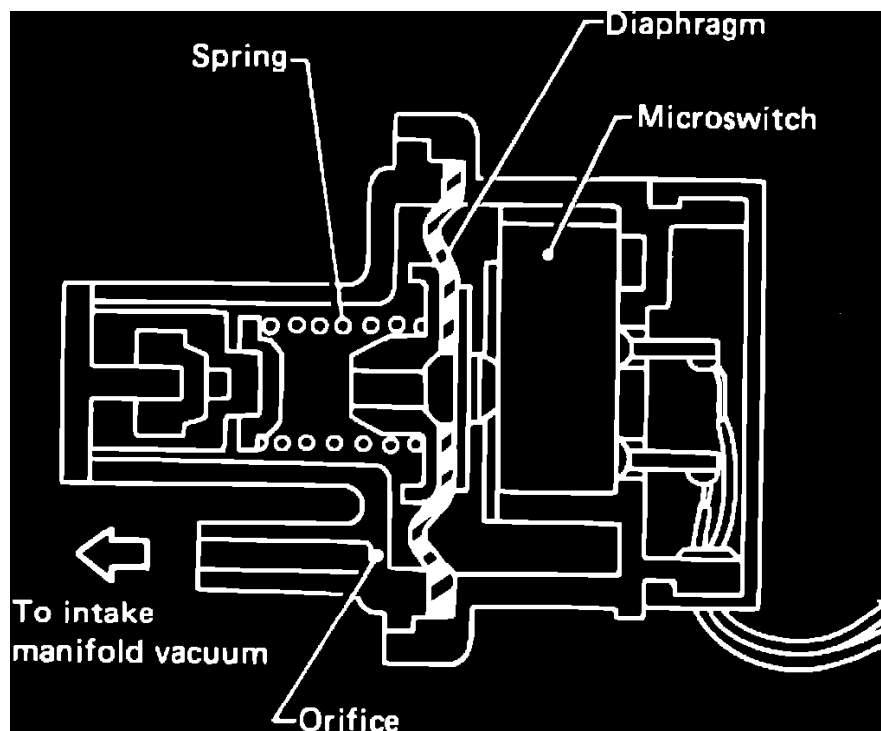

**Fig. 15 Fast idle adjustment.**
2. Turn fast idle adjusting screw until dimension "A," **Fig. 15**, is according to specifications.